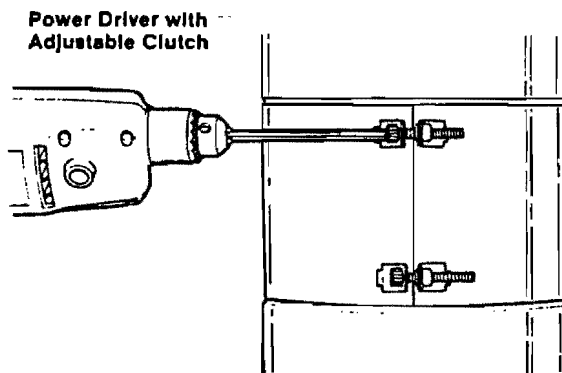

FIGURE 9 Basic Assembly Step 6: Tighten Closure Band fasteners using alternating pattern.
6. Tighten the Closure Band fasteners until the band is snug around the pipe (Figure 9). NOTE: Closure Bands must be free to float within the grooves or beads of the pipe. Do not over-tighten. NEVER FASTEN SCREWS OR RIVETS THROUGH THE WALLS OF THE PIPE TO HOLD CLOSURE BANDS OR ANY OTHER PARTS IN PLACE.